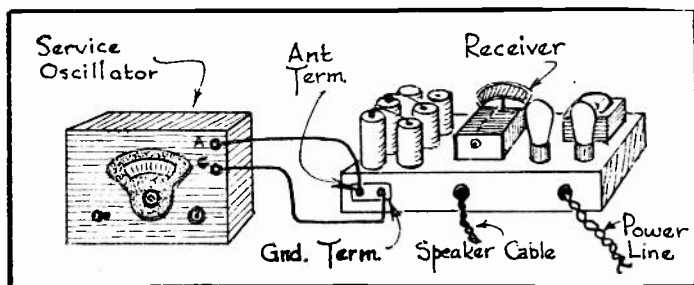

Fig. 3
2. CONNECT THE "ANTENNA" TERMINAL OF THE SERVICE OSCILLATOR TO THE ANTENNA TERMINAL OF THE RECEIVER AND THE "GROUND" TERMINAL OF THE SERVICE OSCILLATOR TO THE GROUND TERMINAL OF THE RECEIVER, AS SHOWN IN FIG. 3.